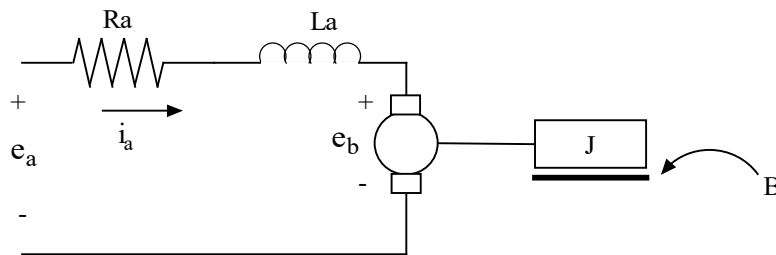

Figure 1: D.C. Motor Diagram
4. Write the 4 electrical and mechanical equations that may be used to find the transfer function of the DC motor $\omega(s)/E_a(s)$. You should use Figure 1, the equations provided in the lab, and the example reference in Section 3.4 of the lab manual as a guide.